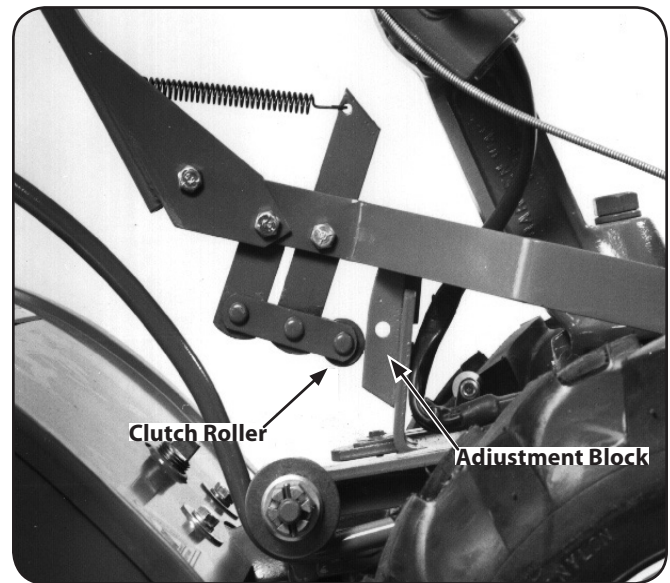

Figure 3-12
- To test Reverse, lift and hold the lever all the way up in the Reverse position, then let it go. The lever should automatically return to the Neutral position. See Figure 3-12. If not, do not use the tiller. See your local authorized dealer or call the TROYBILT Technical Service Department for instructions.